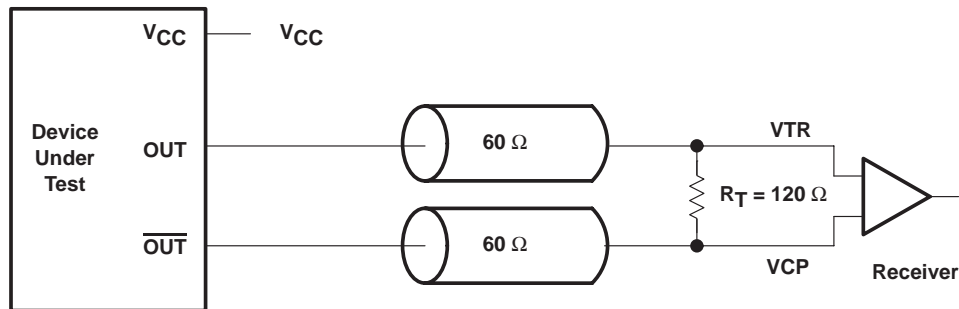

Figure 3. Differential Signal Using Direct Termination Resistor
6. Differential input signal voltage specifies the differential voltage $|V_{TR} - V_{CP}|$ required for switching, where V_{TR} is the true input level and V_{CP} is the complementary input level (see figure 3).
‡ The value of V_{OC} is expected to be |V_TR + V_CP|/2. In case of each clock directly terminated by a 120-Ω resistor, where V_TR is the true input signal voltage and V_CP is the complementary input signal voltage (see Figure 3).
Figure 3 shows the differential clocks are directly terminated by a 120-Ω resistor.